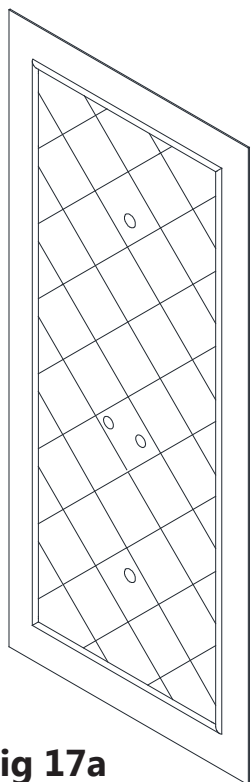
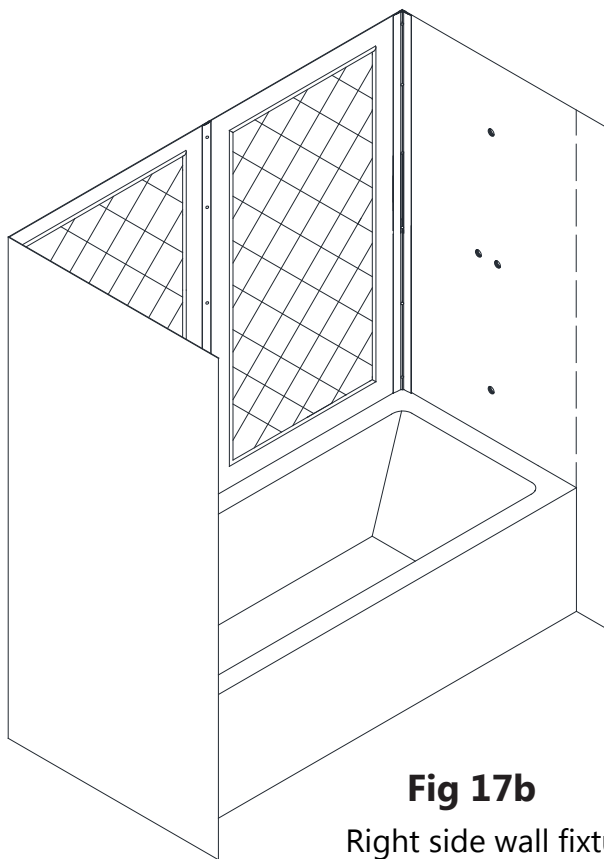

Fig 17a
Fig 17b
17. Transfer the fixture hole measurements (from **Step #4**) onto the **Side Panel (#01)** that will be installed onto the wall with the fixtures. Drill the holes in the **Side Panel (#01)** using the appropriate diameter hole saw or a handheld jig saw. (**Fig 17a** and **Fig 17b**)